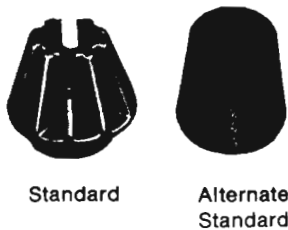

Figure 19
8.4 Release valve stem guard, Fig 19, Pc. 569669 (CV-1174) is provided to protect the internal parts from damage. This stem guard, or an approved alternate, must be applied to release valve stem and held in place by cotter pin before transporting portion.